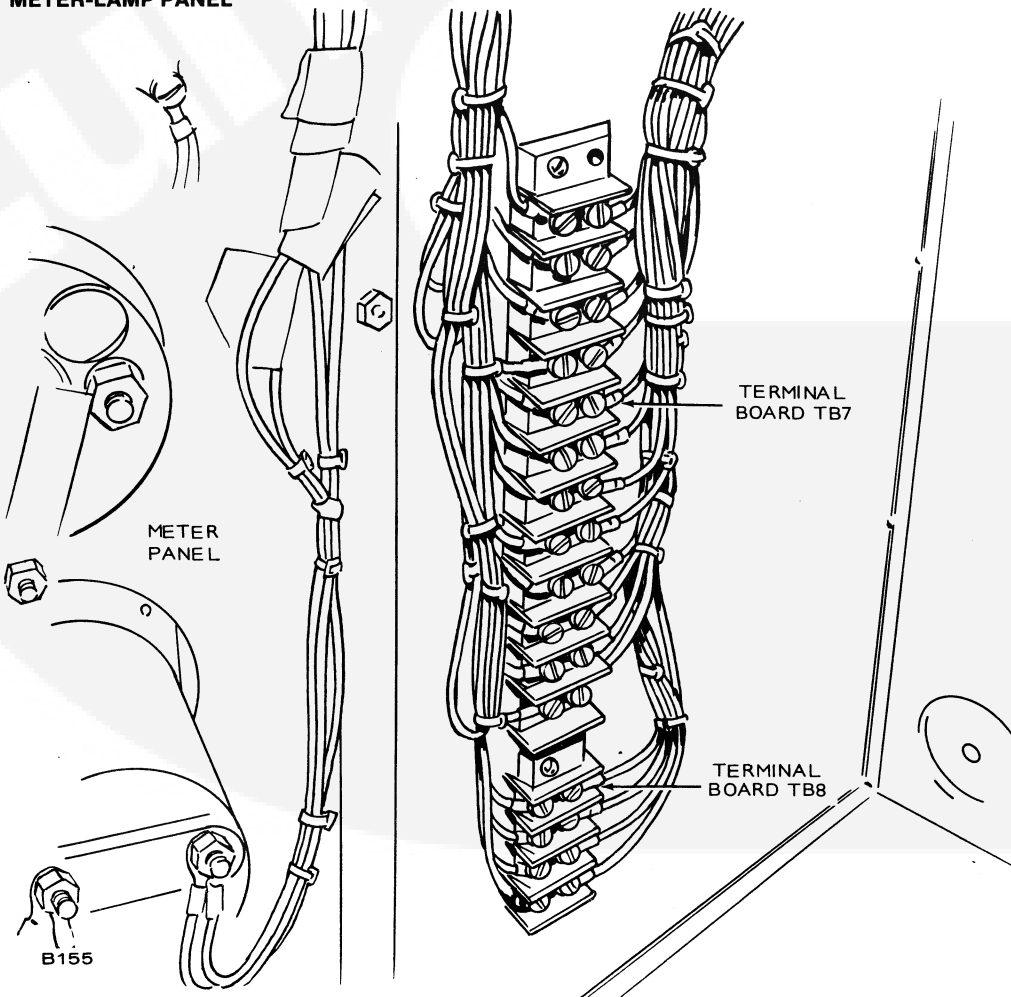

FIGURE 2. TERMINAL BOARD FOR METER-LAMP PANEL WIRE CONNECTIONS
7. Disconnect the meter-lamp panel wires from terminal blocks TB7 and TB8 (if present). See Figure 2.